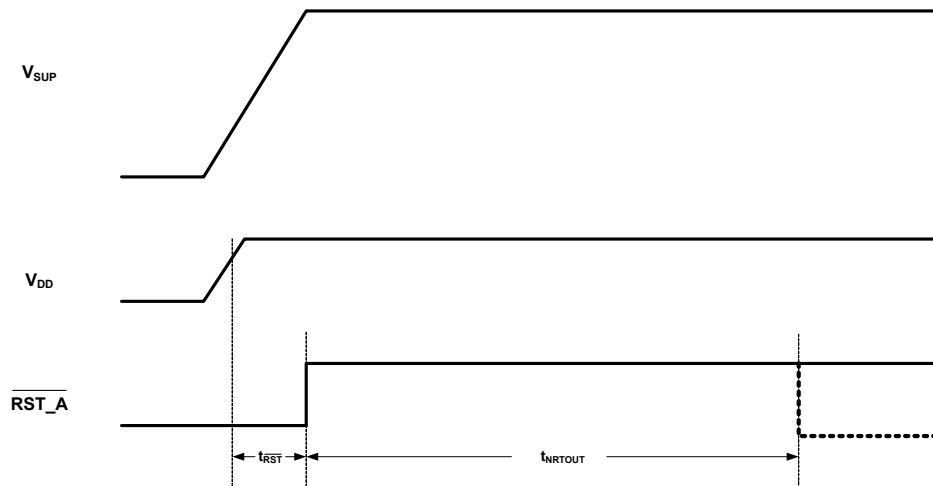

Figure 10. Power On Reset and Normal Request Timeout Timing
28. Also see Figure 10 on page 15